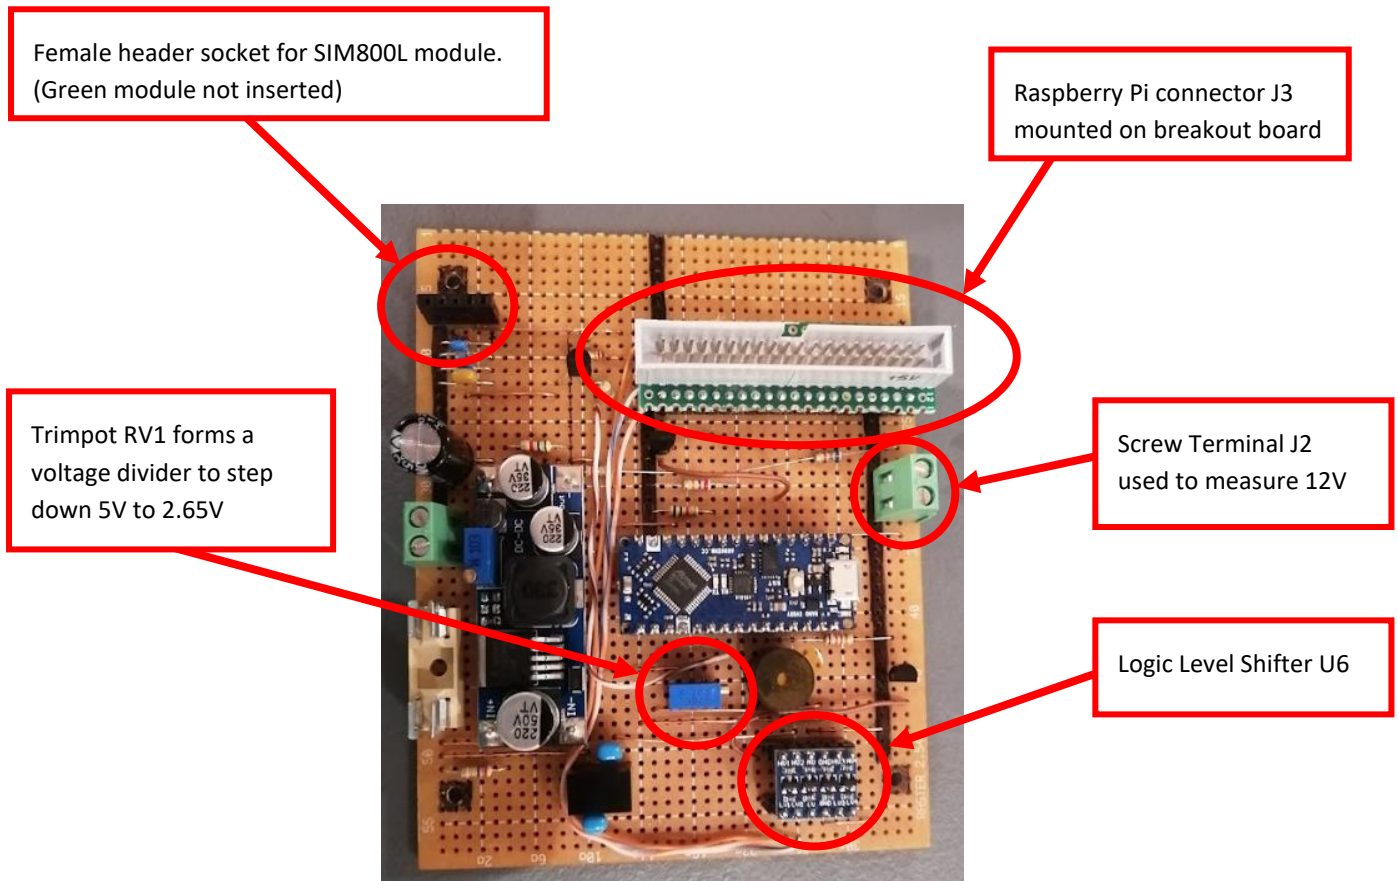

Figure 29 - Dyer Island Monitor
- Since the Pi uses 3.3 V for communication, and the Arduino 5 V, a logic level shifter is needed. These modules are available cheaply and two 6-pin female headers should be used as a socket for easy install/removal. See FIGURE 29 - DYER ISLAND MONITOR.
- 12V: This is the 12V supply for the scales and the router (if an indoor router is used). This voltage is fed via a wire from the Meanwell 12V Power Supply to screw terminal J2. Install the screw terminal in the top right section of the board to allow for easy connecting when installing the board. See FIGURE 29 - DYER ISLAND MONITOR. Resistor R4 and R5 is used to step the 12V before connecting it to A5 of the Arduino